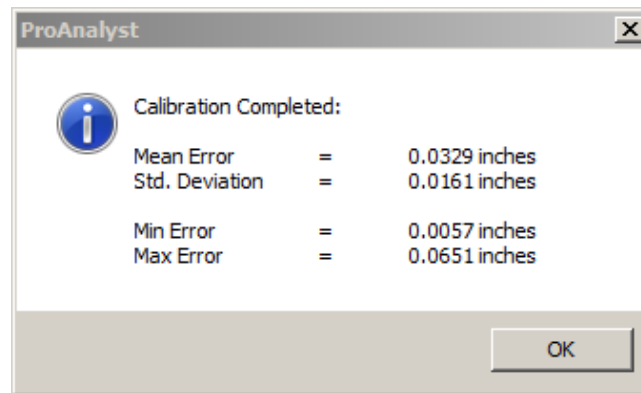

Figure 8. Calibration Completed dialog box
8. After you calibrate, a Calibration Completed dialog box will be displayed as shown in Figure 8. This dialog will show the Mean Error, Standard Deviation, Minimum Error, and Maximum Error inherent in your calibration. If you are satisfied with the results, click **OK**. If you would like to try to reduce any calibration error, you may repeat any or all of the previous steps and click the **Calibrate** button again to see the new calibration settings.